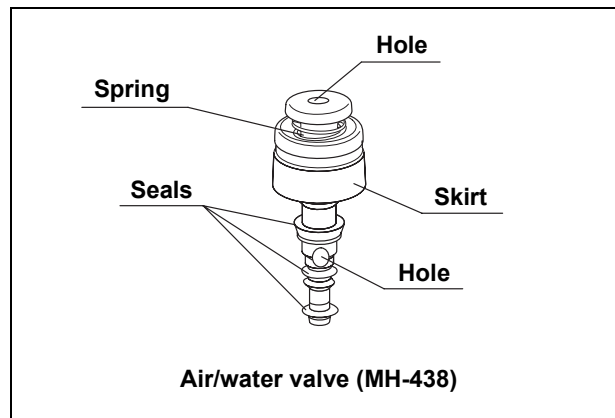

Figure 3.6
Confirm that the top hole of the air/water valve is not blocked (see Figure 3.6). If the hole is blocked, air is fed continuously and patient pain, bleeding and/or perforation can result.
1. Confirm that the holes of the valves are not blocked (see Figures 3.6 and 3.7).
2. Confirm that the valves are not deformed or cracked (see Figures 3.6 and 3.7).
3. Check for excessive scratching or tears in the air/water valve's seals (see Figure 3.6).